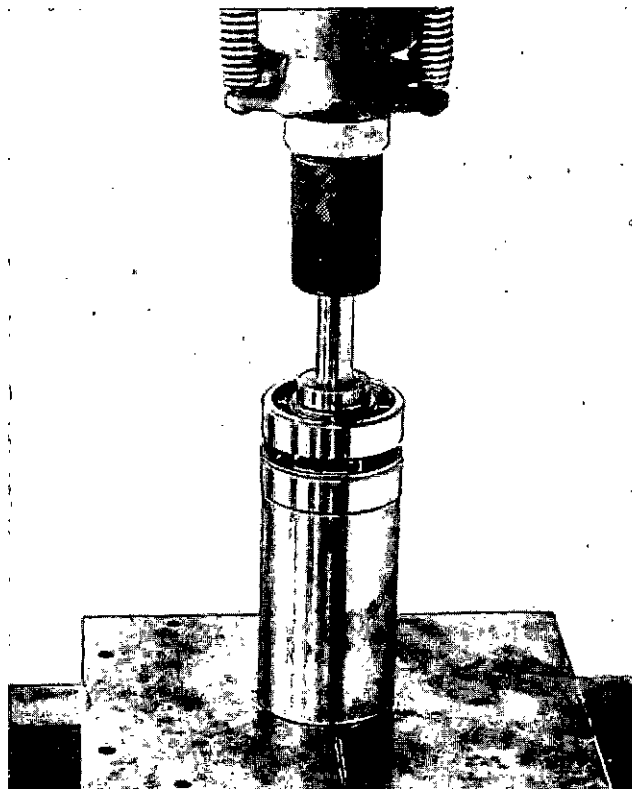

Fig. 8-47 (N10888). Install The Bearing Onto The Shaft.
11. Install the smaller retaining ring (8) onto the shaft.
12. Use the ST-658 to support the new outer bearing (6, Fig. 8-34). Install the bearing spacer (7) onto the shaft. Push the shaft and spacer through the bearing until the bearing is against the spacer, Fig. 8-47. Make sure the bearings turn freely.